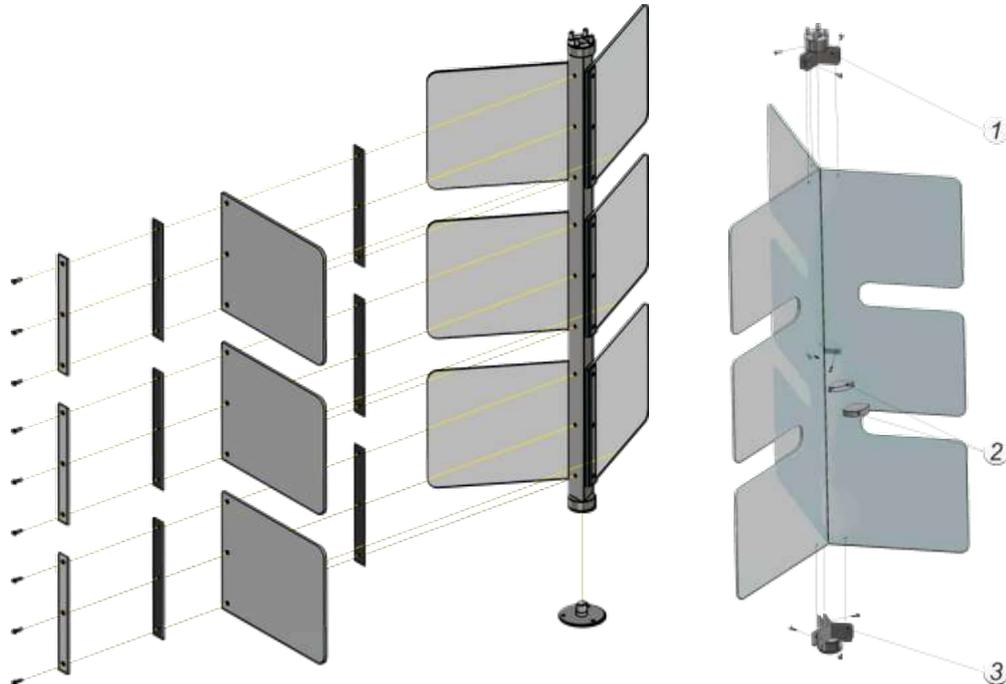

Fig.9 - Assembly of access way wall and enclosure wall
- Connect the structural elements of access way and enclosure wall, and set in the design position for marking holes (see Figure 9);